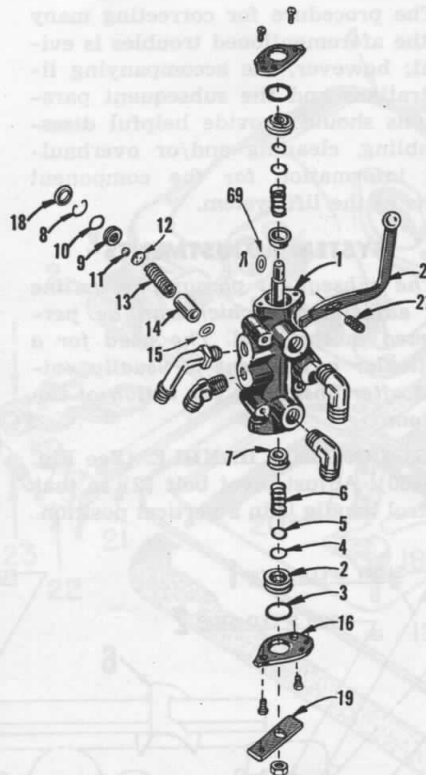

Fig. MH463—Exploded view of typical control valve as used on models without a mounted "Depth-O-Matic" cylinder.
**361. RELIEF VALVE.** To check and adjust the relief valve opening pressure, install a 2000 psi gage in the rear side port of the control valve, start engine and run until the hydraulic working fluid is at normal operating temperature. Hold control lever back until relief valve opens which can usually be detected by an audible buzzing sound; at which time, the gage should show a pressure of 1200-1300 psi. If gage pressure is not as specified, remove the relief valve spring (13—Fig. MH463) or (30—Fig. MH464) and check the spring against the following specifications.
If spring is in satisfactory condition, vary the number of adjusting washers (15—Fig. MH463) or (31—Fig. MH464) to obtain the desired pressure. Each washer represents approximately 25 psi pressure. If the insertion of washers does not bring the pressure to specified value it indicates leakage at valve or a faulty pump.
On models where the hydraulic work cylinder is mounted on the tractor, the control valves unit is mounted on and forms an integral part of the work cylinder as shown in Fig. MH464. On other models, the control valves Fig. MH463, are independently mounted on a valve manifold.
**364. OVERHAUL CONTROL VALVE.** Normal overhaul of the valve unit (See Figs. MH463 and 464) consists of disassembling the unit, cleaning, renewing worn parts and installing a packing kit. It is important, however, to check the valve bore for possible burrs, and the spool for straight-